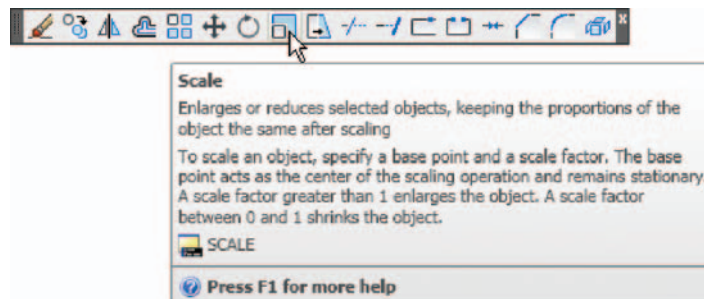

Fig. 5.28 The Scale tool icon from the Home/Modify toolbar
2. Call **Scale** – *left-click* its tool icon in the **Home/Draw** panel (Fig. 5.28), *pick* its tool icon in the **Modify** toolbar, *pick* **Scale** from the **Modify** drop-down-menu or, *click* its tool in the **Modify** toolbar or, *enter* **sc** or **scale** at the command line which then shows: